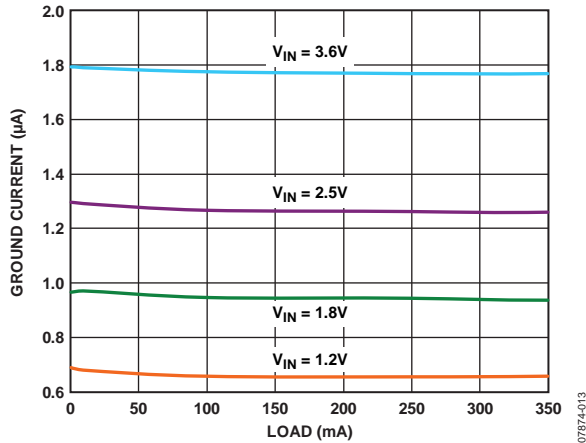

Figure 19. Ground Current vs. Load Current
The major source for ground current in the ADP190/ADP191 is the 4 M $\Omega$  pull-down on the enable (EN) pin. Figure 19 shows typical ground current when  $V_{EN} = V_{IN}$  and  $V_{IN}$  varies from 1.1 V to 3.6 V.